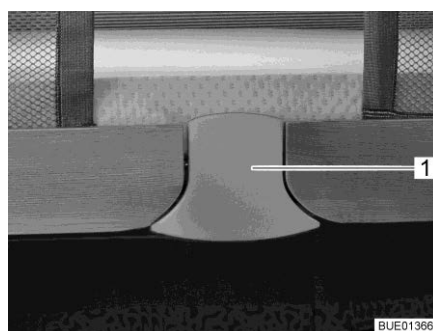

Fig. 119 Release
- Pull out the release plate (Fig. 119,1) at the bottom. The lock is released.